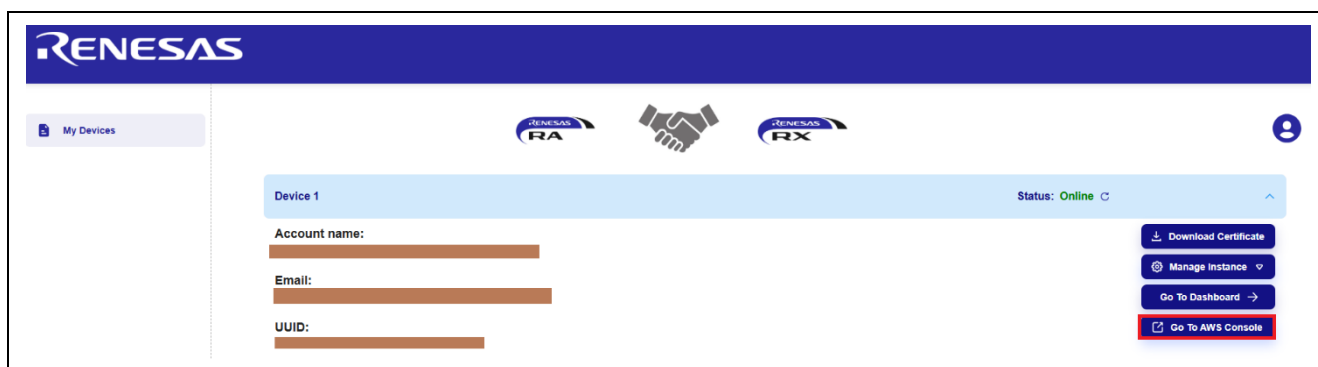

Figure 193. Accessing AWS Account from the Dashboard
1. Access AWS account (Refer to Figure 193. Accessing AWS Account from the Dashboard)